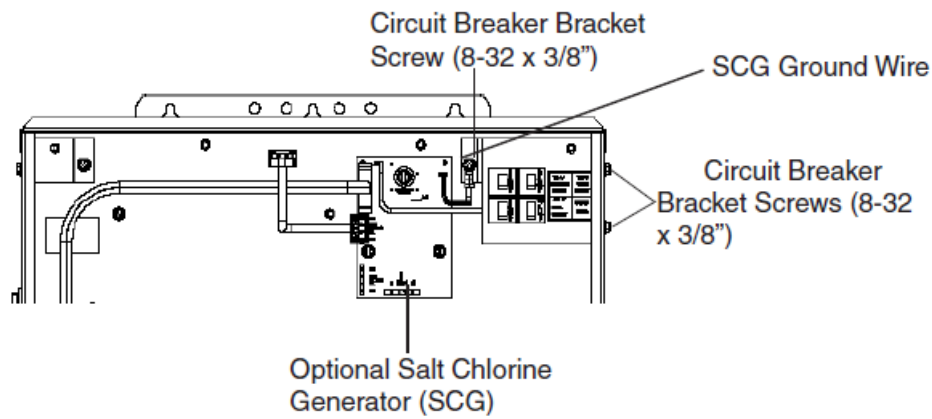

Figure 7. Circuit Breakers Bracket
5. Install the circuit breaker bracket with the circuit breakers onto the enclosure, and secure it with two #8-32 x 3/8" screws (7).
6. Secure the circuit breaker bracket onto the back of the enclosure with #8-32 x 3/8" screw. Be sure to reinstall the SCG ground wire (if present). See Figure 7.